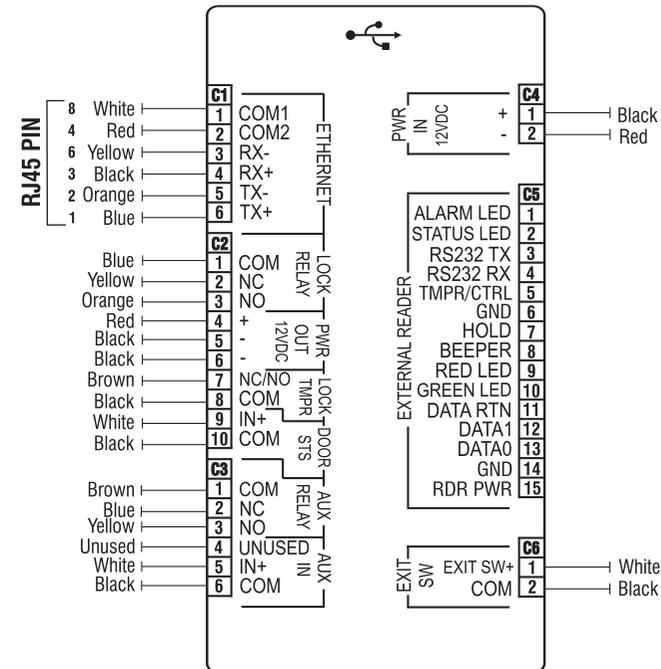

Figure 4
- Refer the wire color code mapping for the terminals (Figure 4).